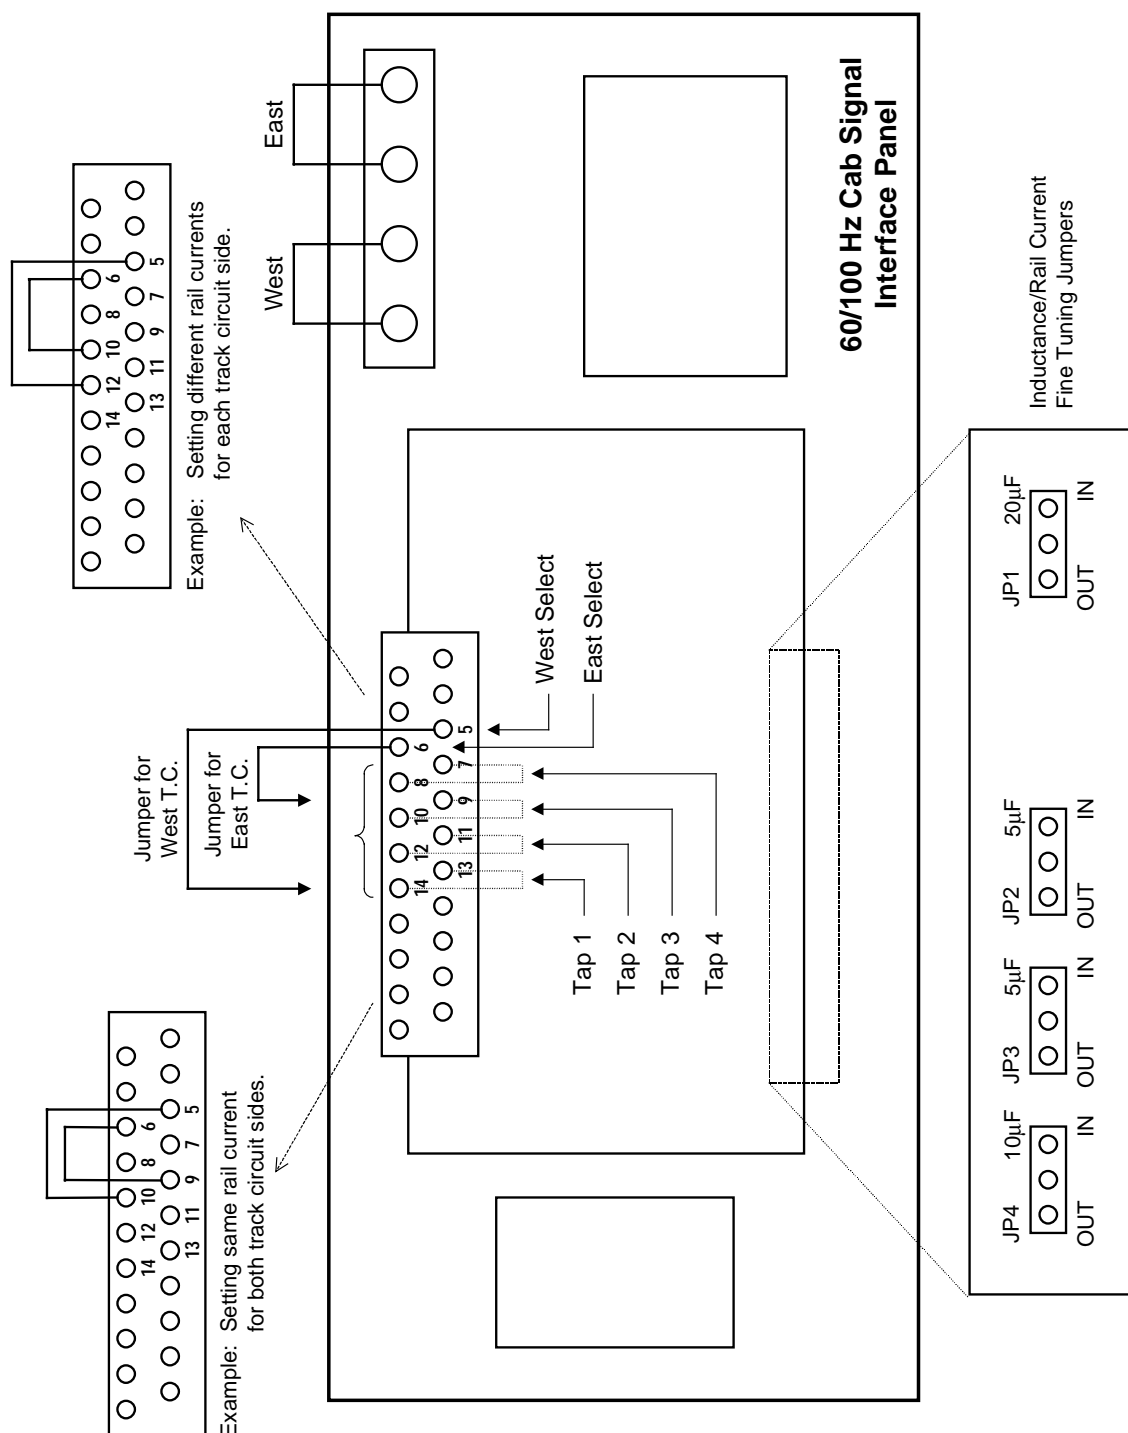

Figure 6-2. 60/100 Hz Cab Signal Interface Panel Rail Current Adjustments
Cab signal rail current is adjusted by manually positioning wire jumpers on the cab signal interface panels. The interface panel includes a power transformer with four taps that are used to set the rail current. These taps are wired to a 22-terminal screw-lock connector on the panel (see Figures 6-2 and 6-3). The taps are arranged in ascending order of power, with Tap 1 at the lowest current setting and Tap 4 at the highest. Two terminals are provided for each tap so that the same setting can be used on each side of an insulated joint. In general, longer track circuits require a higher tap setting. If both track circuits are of equal length, the same tap would normally be used for both circuits. Use awg #14 wire (1.6 mm) for the rail current tap jumpers.
- b. If less current is required, move the jumper from terminal 12 to terminal 14 (Tap #1). If more current is required, move the jumper from terminal 12 to either terminal 10 (Tap #3) or terminal 8 (Tap #4). See Figures 6-2 and 6-3 for locations.
- b. If less current is required, move the jumper from terminal 11 to terminal 13 (Tap #1). If more current is required, move the jumper from terminal 11 to either terminal 9 (Tap #3) or terminal 7 (Tap #4). See Figures 6-2 and 6-3 for locations.
A series of jumpers at the bottom of the cab signal interface panel (see Figures 6-2 and 6-3) are used for fine tuning the rail current levels. These jumpers are properly positioned at the factory and do not require field adjustment.